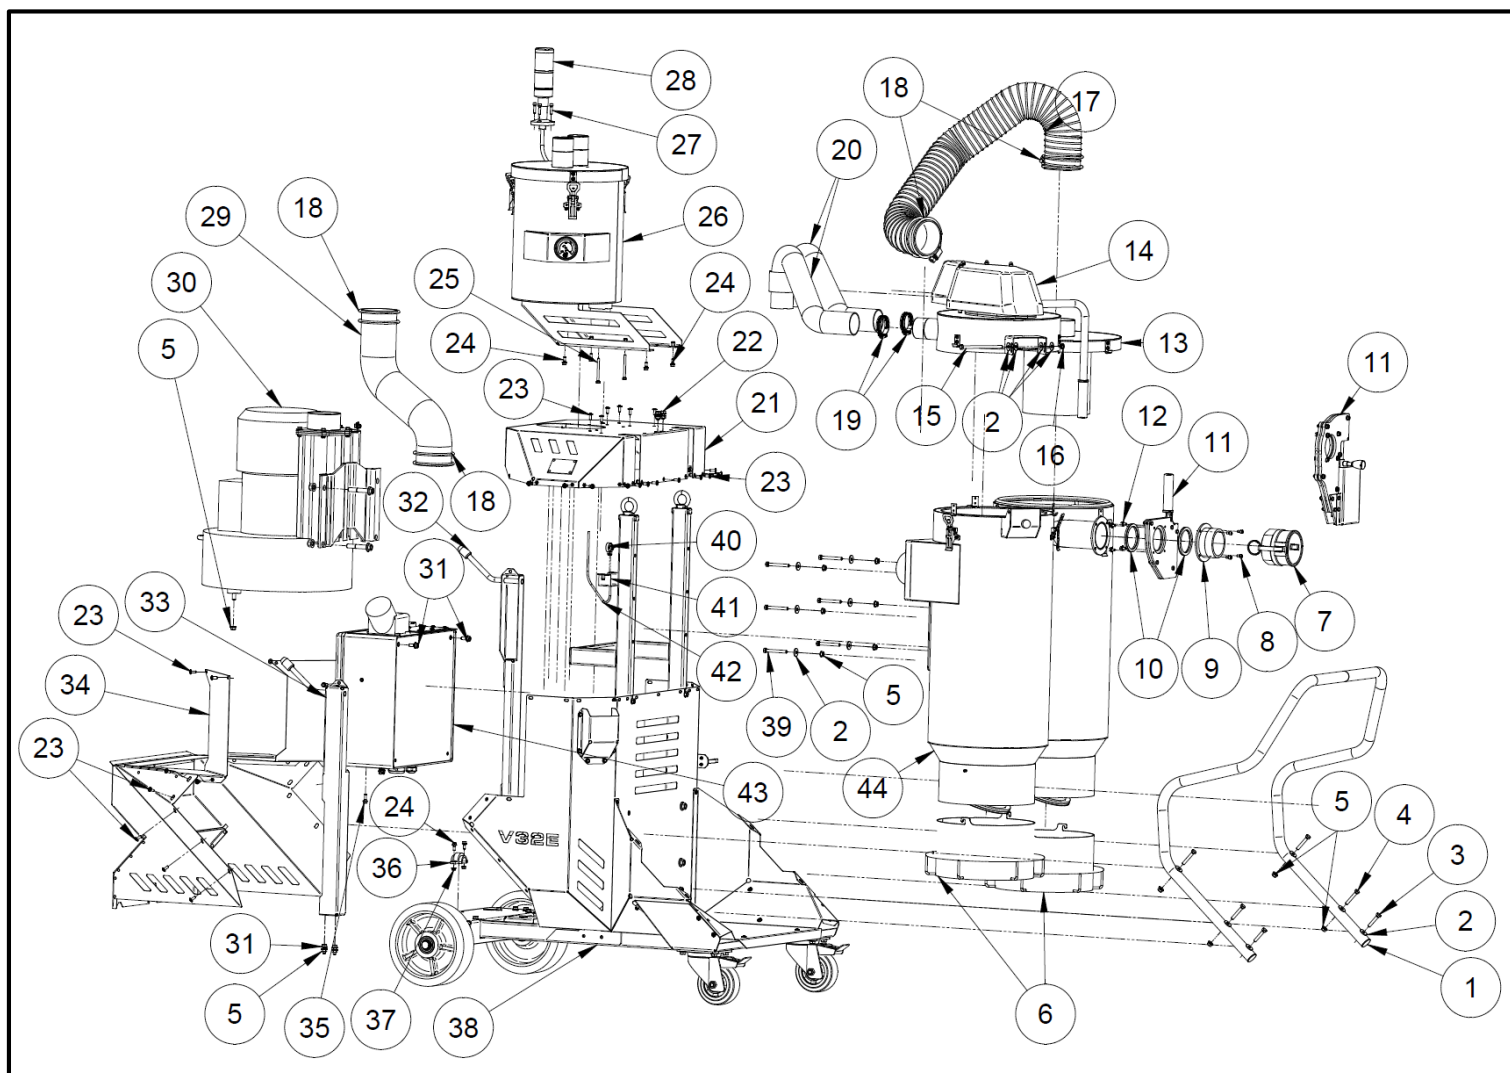

Figure 11.1
1. When mounting the inlet valve the bolts pos. 8 and 12 at **fig. 11.1** must be tightened at 6 Nm.